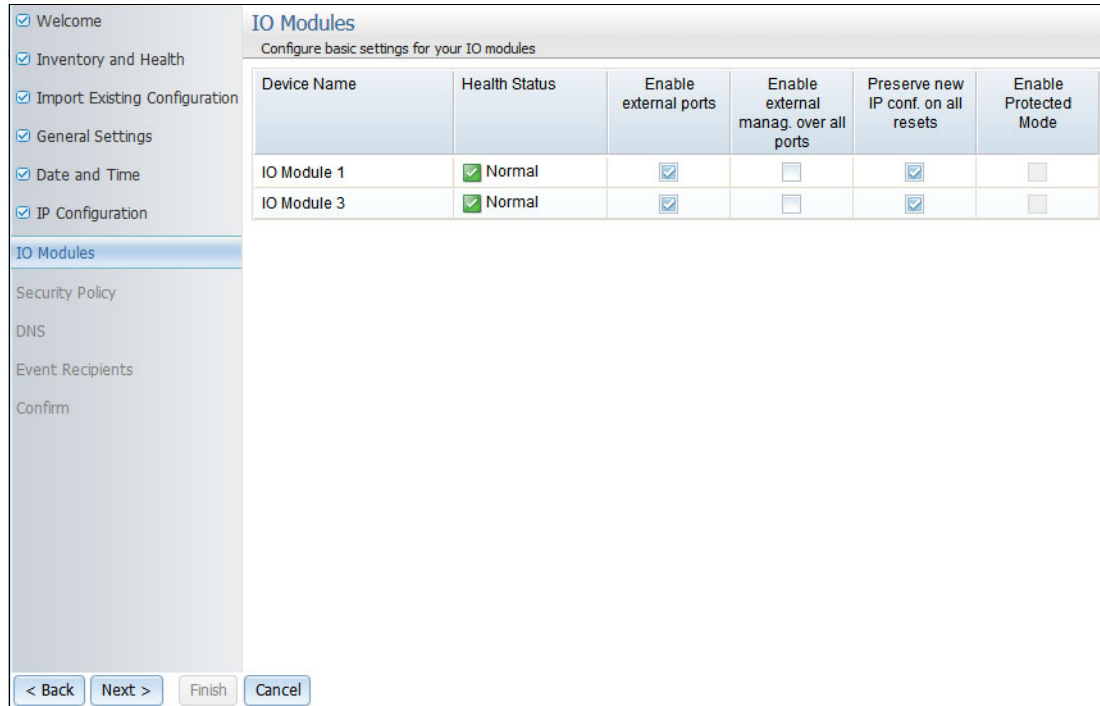

Figure 4-14 I/O Modules window
- f. You can view the status and configure the options for the I/O modules that are connected to the CMM, as shown in Figure 4-14. Click **Next**.